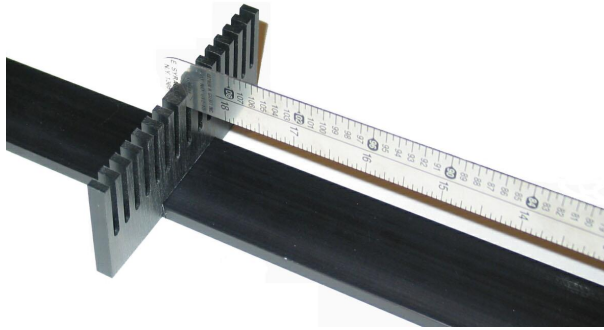

Figure 4.7: Tip Placed in the Middle Calibration Comb Slot
5. Place the tip in the middle tooth of the comb as seen in Figure 4.7 below.